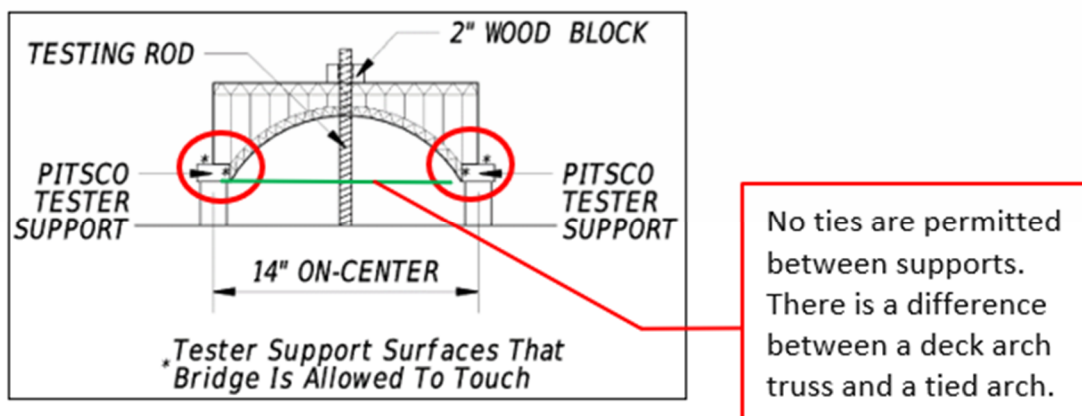

Figure 13. Support Detail
- i) The bridge is allowed to touch the tester support surfaces ONLY where shown by the "\*" in Figure 13. Bridges are not allowed to touch any portion of the tester not denoted by "\*" in Figure 13. **It is recommended, but not required, to utilize both the horizontal and vertical support surfaces (denoted by "\*") for strength advantages.**